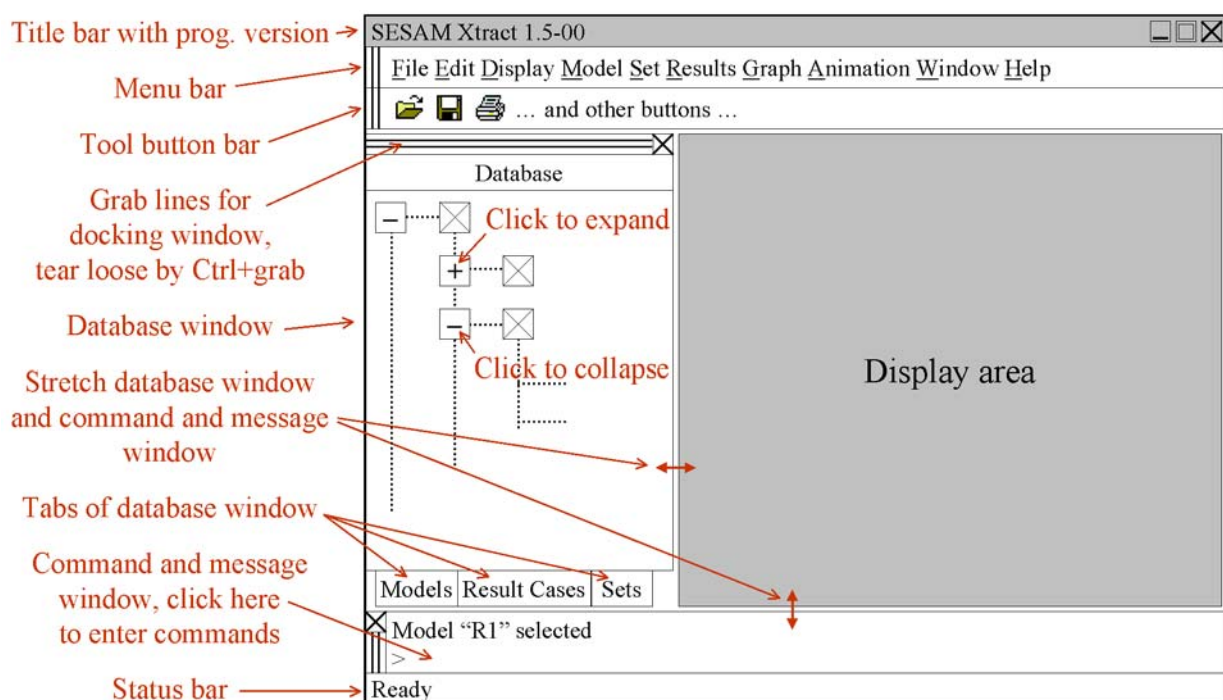

Figure 3.2 The graphical user interface of Xtract
- 3 Now present the displacements of the first result case by clicking the Result Cases tab of the Database window (see Figure 3.2) and then double-click in sequence the result position Nodes (see Section 3.2.1 about result positions), the attribute DISPLACEMENT and the component ALL (see Appendix B 2 about attributes and components).
The Xtract window consists of various dockable windows, i.e. windows that may be docked along the edges of the Xtract window or torn loose and moved to any position on the screen. Figure 3.2 is a sketch illustrating the graphical user interface of Xtract with its dockable windows. Figure 3.31 shows an example of the Database window torn loose to increase the display area. Note that the Database window and the Command and message window may also be re-sized.